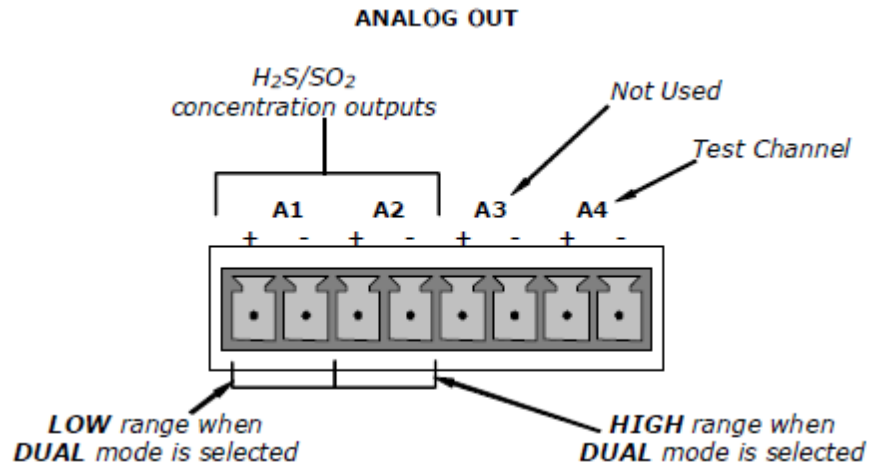

Figure 6.5 Analog out connector.
- 6.5.1.1 The analyzer has three active analog output signals, accessible through a connector on the rear panel (Figure 6.5).